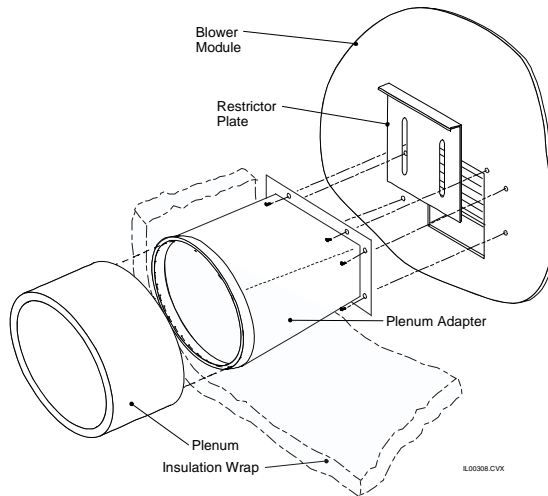

Figure 12. Supply Plenum Adapter Installation
To attach the plenum adapter, first install the restrictor plate. Then install the adapter with eight (8) sheet metal screws as shown in Fig. 12. Sheet metal screws for installing both are provided with the blower.